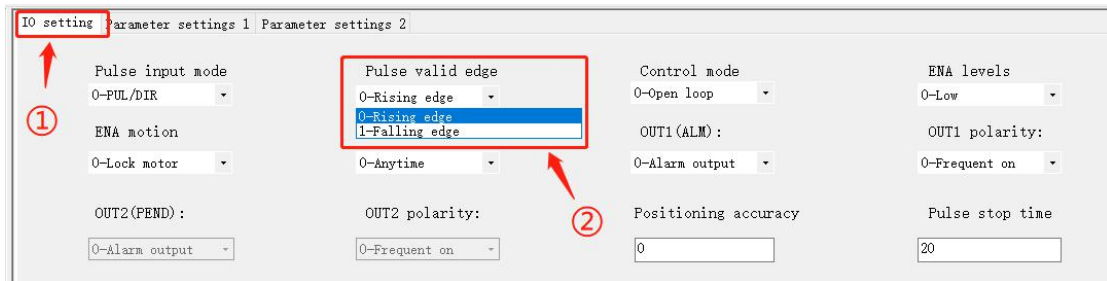

Figure 7
As shown in Fig. 7, step ①: click "IO Setting"; Step ②: Users can select "pulse valid edge" according to their own needs.